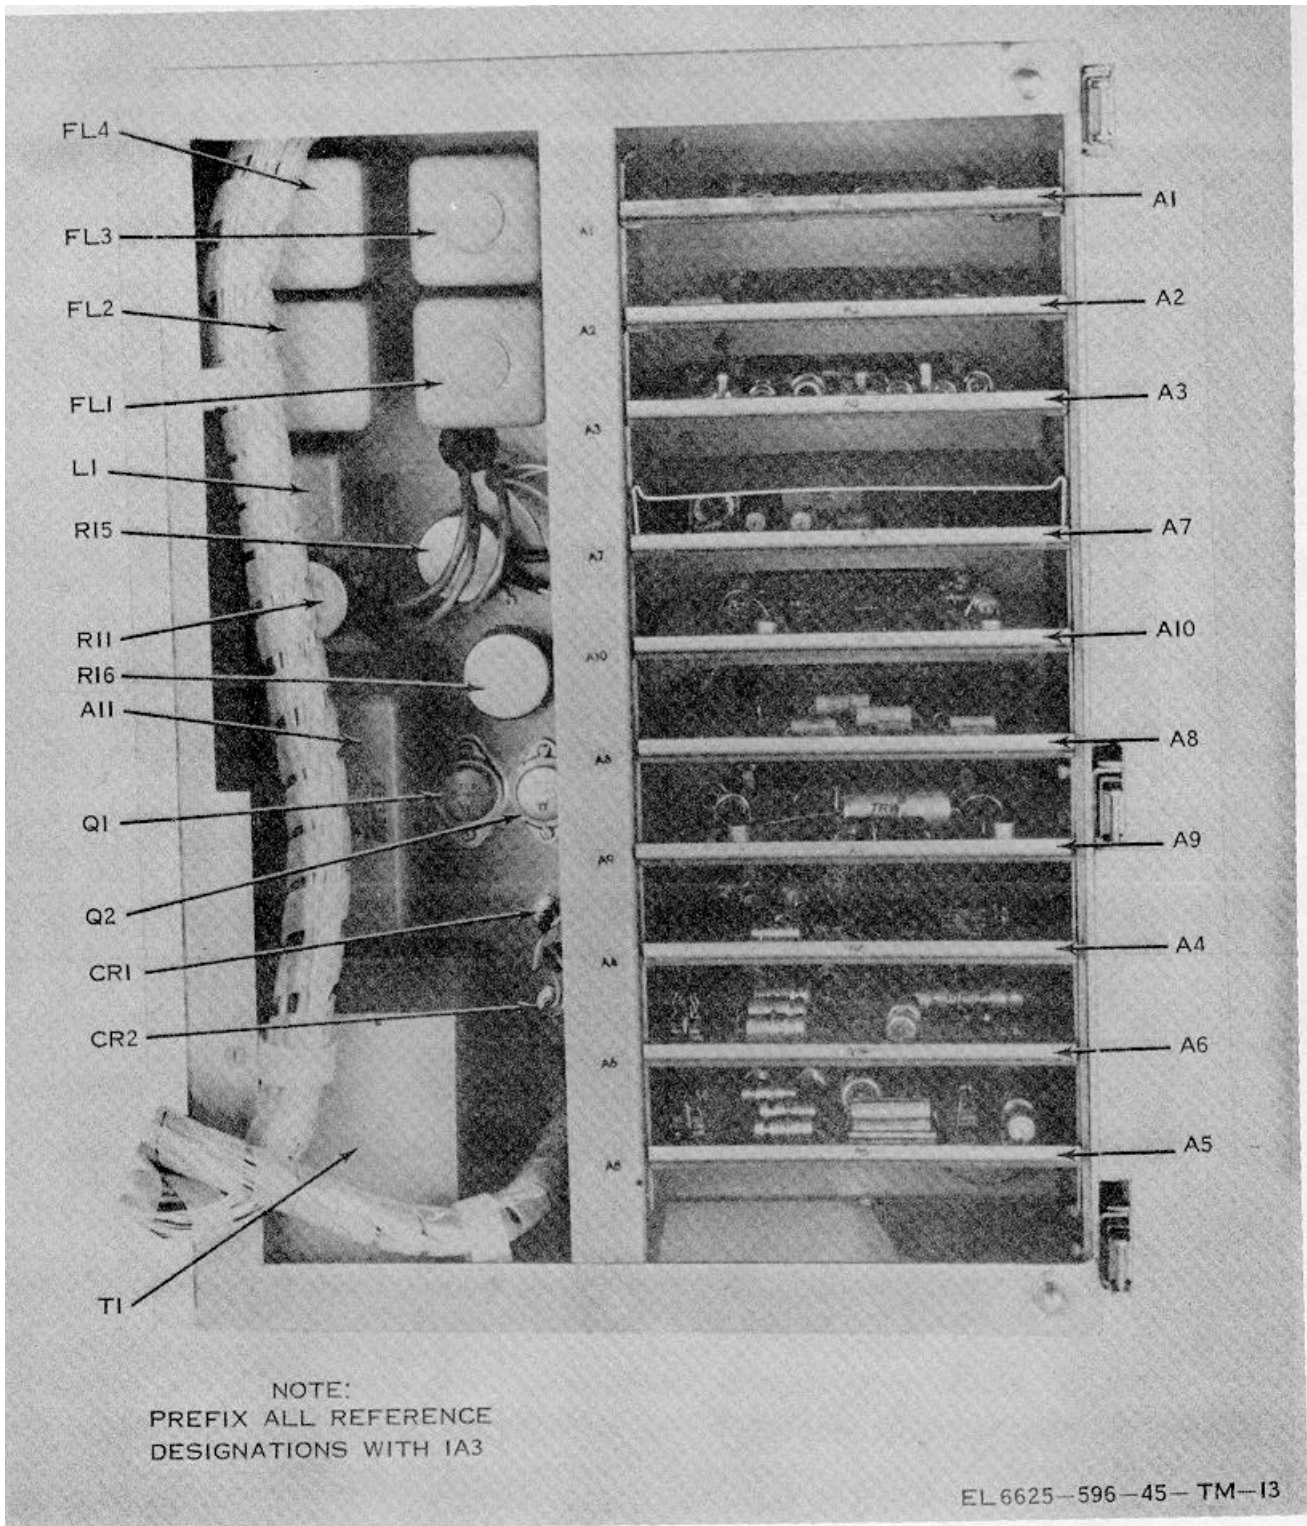
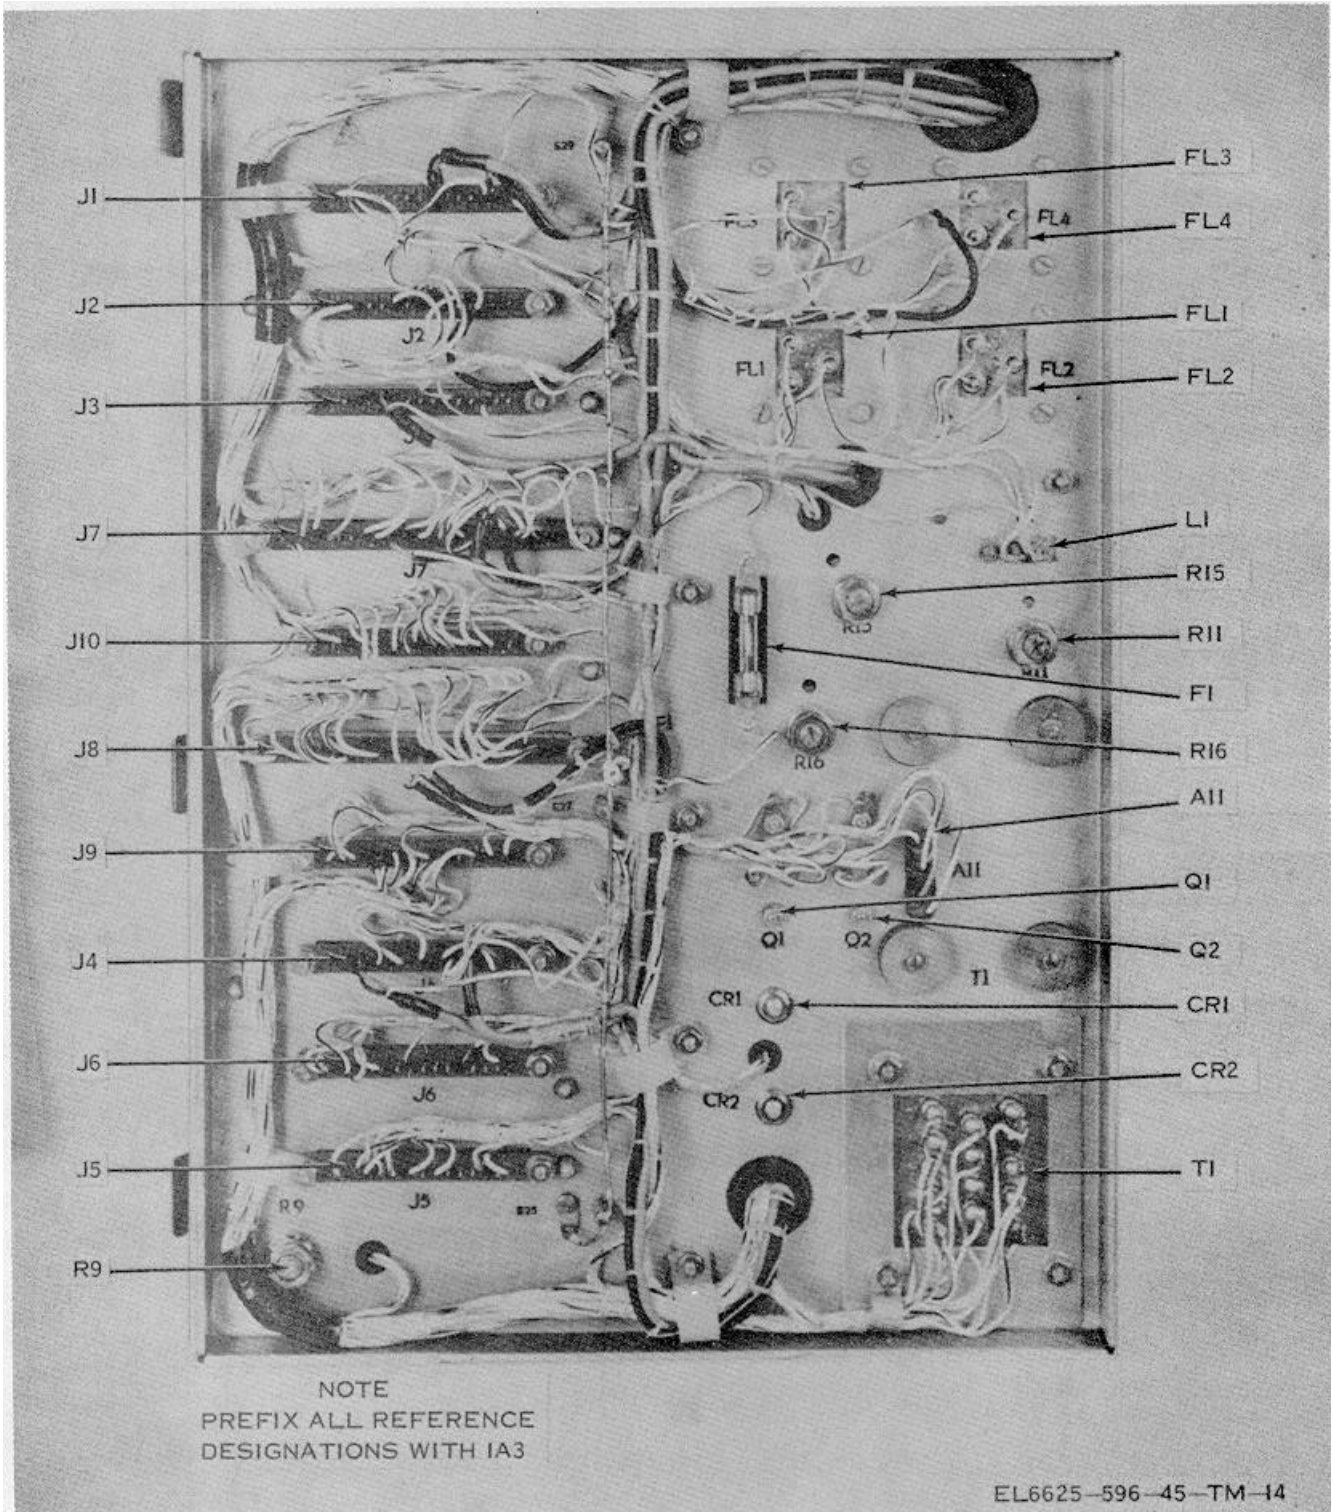

Figure 3-2. Test rack assembly 1AB, front view.
Figure 3-3. Test rack assembly 1A8, rear view.
a. *General.* Voltage measurements at receptacles 1A3J1 through J10 (FIG. 3-3 in to which assemblies 1A3A1 through A10 (FIG. 3-2) plug are listed in the charts in b through k below. Voltage measurements at the terminals of power transformer 1A3T1 (FIG. 3-3) are listed in the chart in 1 below. Measure the voltages with the test equipment specified, and with test microphone 1A2A4A4 directly over test loudspeaker 1A2A2.
(1) Unless otherwise specified, controls are set as follows: